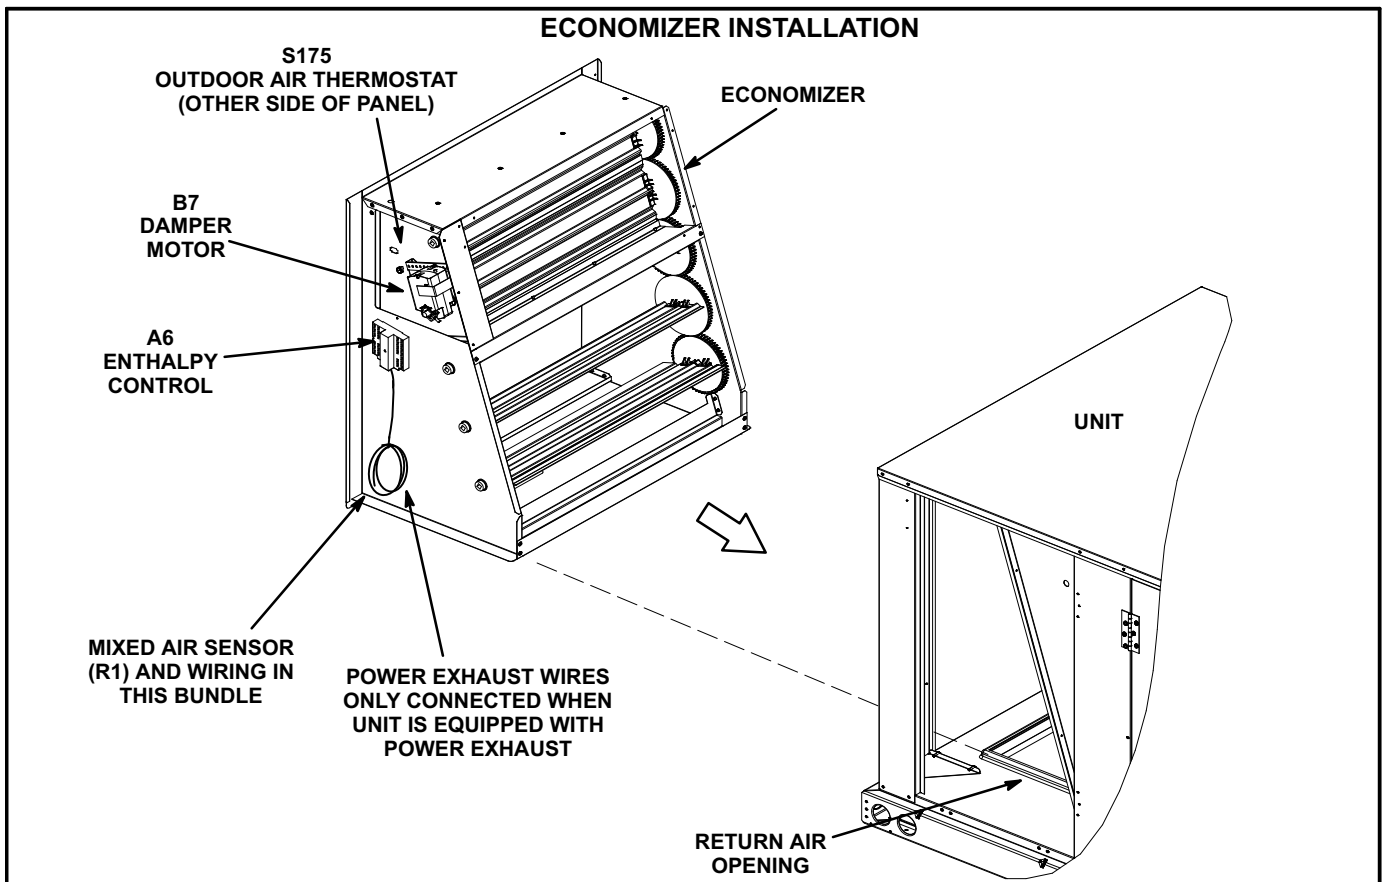

FIGURE 2
- 2- Install damper assembly through end of unit. Fit opening in bottom of damper assembly over the return air opening. See figure 2.